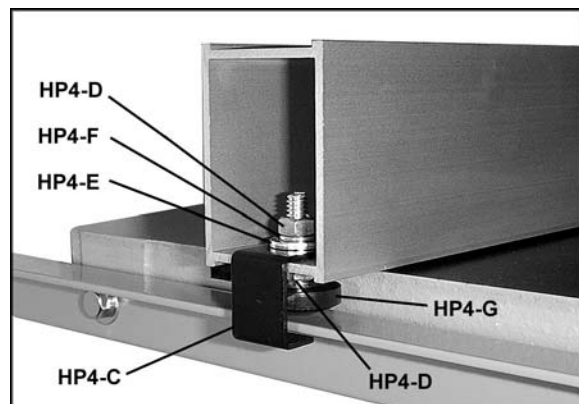

Figure 29
4. At the rear of the fence, thread a *1/4" hex nut* (HP4-D, Figure 29) onto the *sliding pad* (HP4-G) and insert the sliding pad through the fence and *rear hook* (HP4-C). Secure in place using a *1/4" flat washer* (HP4-E), *1/4" lock washer* (HP4-F) and a *1/4" hex nut* (HP4-D). The rear hook should be adjusted so that it overlaps the rear rail by approximately 1/8".
Refer to Figures 29 and 30.
4. Adjust the height of the sliding pad at the rear of the fence (Figure 29) if further adjustment is needed to even the gap along the length of the fence.